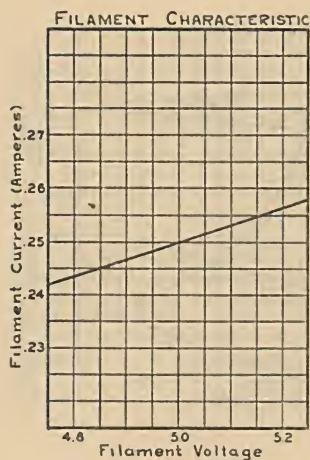

Fig. 11
**Filament Characteristic**—Fig. 11 shows the change of filament current with various filament voltages.